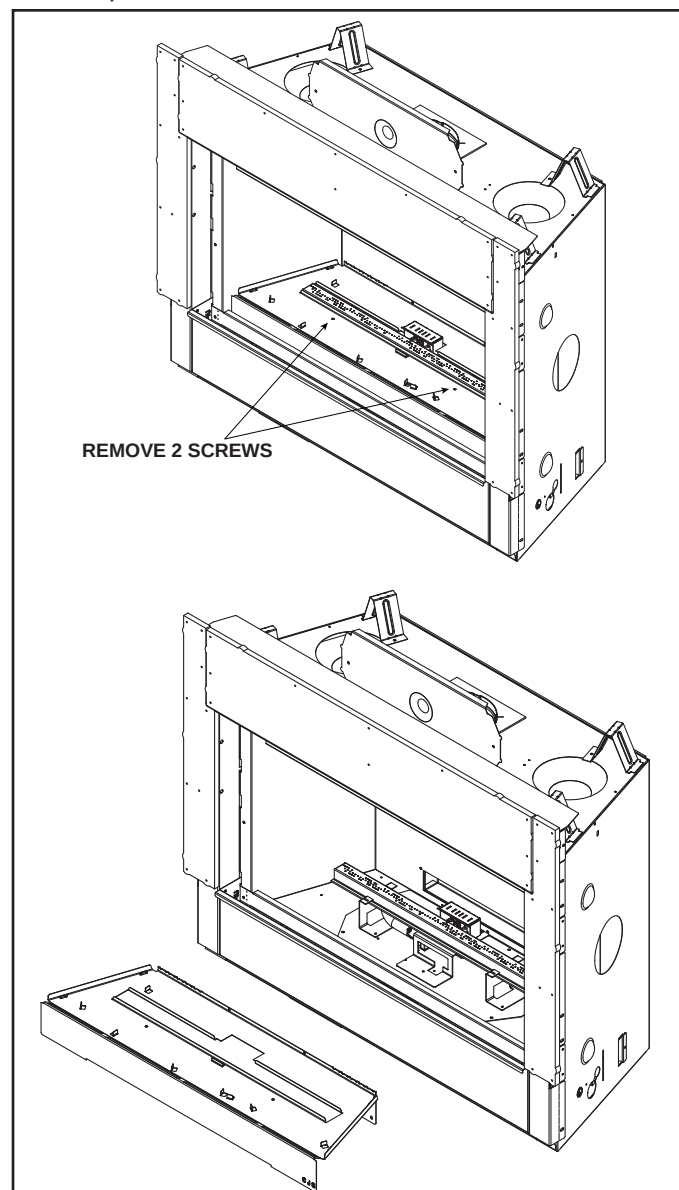

Figure 9.1 Basepan Removal - COSMO42-IFT-B Shown
- Locate and remove the two screws that secure the basepan to the appliance. See Figure 9.1. Remove basepan. Retain screws.